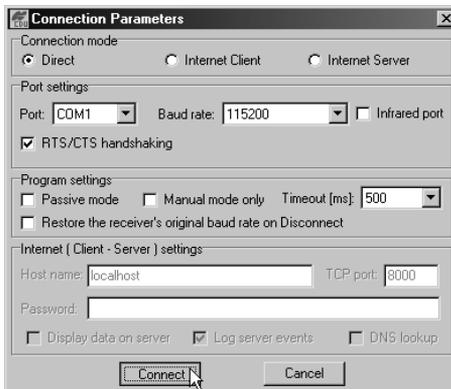

Figure 2-20. Connection Parameters – RTS/CTS Handshaking
2. On the Connection Parameters dialog box, enable RTS/CTS handshaking (Figure 2-20)